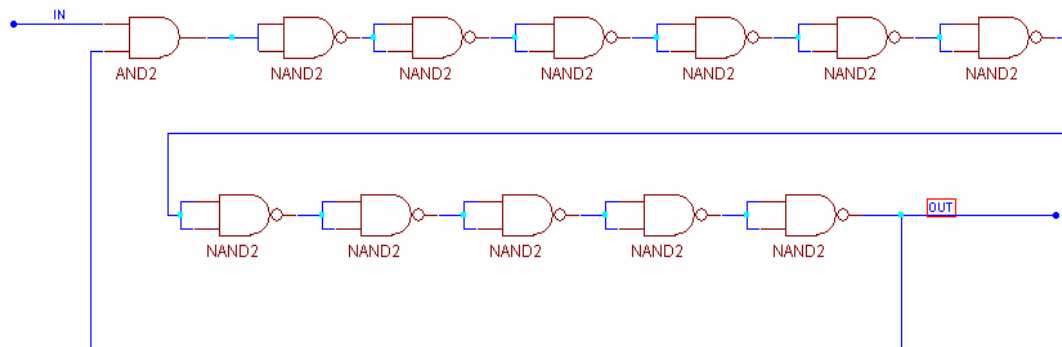

Figure 4.3: Ring Oscillator with Enable Input.
1. Start a new schematic, where you will design a schematic of ring oscillator of 11 gates by using NAND gates only and attach an AND gate with the first NAND gate in the chain (as shown in Figure 4.3), where one of inputs of AND gate is connected to a switch. Do timing simulation of this device (You will not be able to do functional simulation here. Try that and see what happens!). Watch the oscillator output as the switch is flipped between 0 & 1.